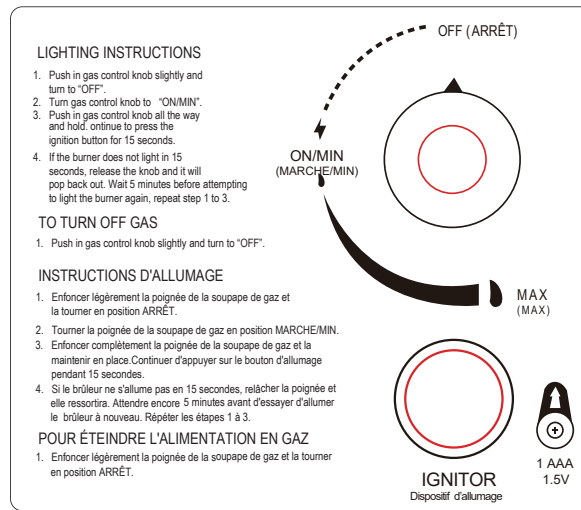

Figure 5
4. Cover the fire pit with the outdoor Weather cover (B) when not in use to protect it from the elements or when fire pit is cool COMPLETELY after the use (See Figure 5).
Make sure the control knob is in the “OFF” position. Unscrew the push button cap on the ignitor module located on the control panel to access the battery compartment. The ignitor module requires one AAA size battery (See Figure 5).